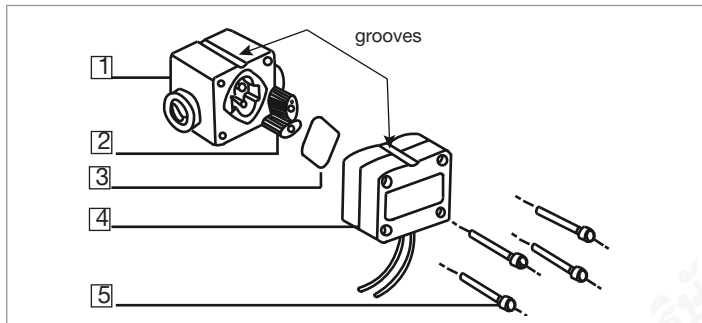

Fig. 6 Exploded view of the device
- Unscrew the 4 screws (mark 5 Fig. 6) and remove the cover including the electronic module (mark 4 Fig. 6).
- Remove the seal (mark 3 Fig. 6).
- Remove the rotors (mark 2 Fig. 6).
- Tighten the 4 screws (mark 5 Fig. 6), carefully to avoid damages to the housing, and in an alternating pattern at the following torque:
- Put the seal (mark 3 Fig. 6) in its groove.
- Put the cover (mark 4 Fig. 6) on the housing, aligning the groove on the cover with the one of the housing.